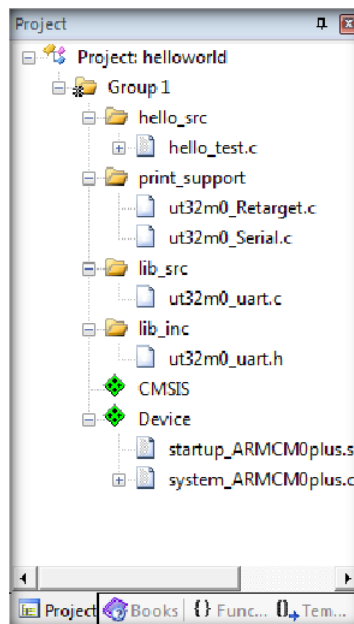

Figure 4: Add source and include files
- Right-click on **Target1** and select **Add Group...** to create groups for source and include files from Cobham's Standard Peripheral Library, <your working dir>\StdPeriphLib\src and <your working dir>\StdPeriphLib\inc. Add sources and include files to their respective directories, see Figure 4.